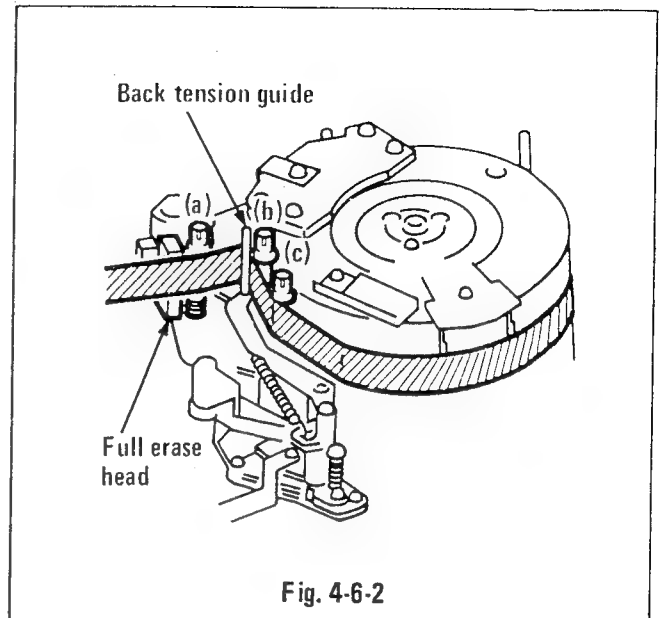

Fig. 4-6-2
## 2. FULL-ERASE HEAD TAPE GUIDES (See Figs. 4-6-2 ~ 4-6-4.)
- (1) Connect an oscilloscope to the video output terminal (the check terminal of circuit board VD-1), and then playback the alignment tape (VJ-0093).
- (2) Check the tape path in the area of the back tension guide. If there is any looseness in either the upper or lower edges of the tape, adjust tape guides (a), (b), and (c) so that the guide flanges are not in contact. (See Fig. 4-6-2.)